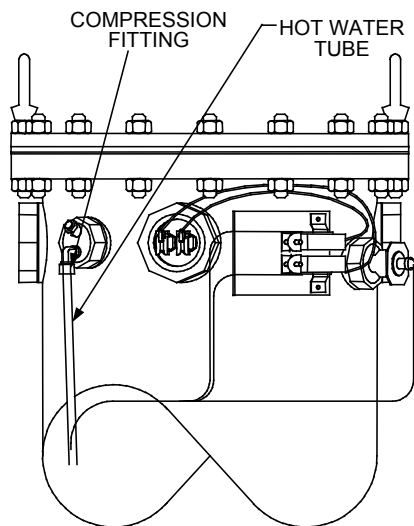

Figure 6.8
15. Loosen the compression fitting at the top of the shell holding the hot water tube, (See Fig. 6.8). Slide the hot water tube down slightly but do not remove it from the unit. Remove the fitting.